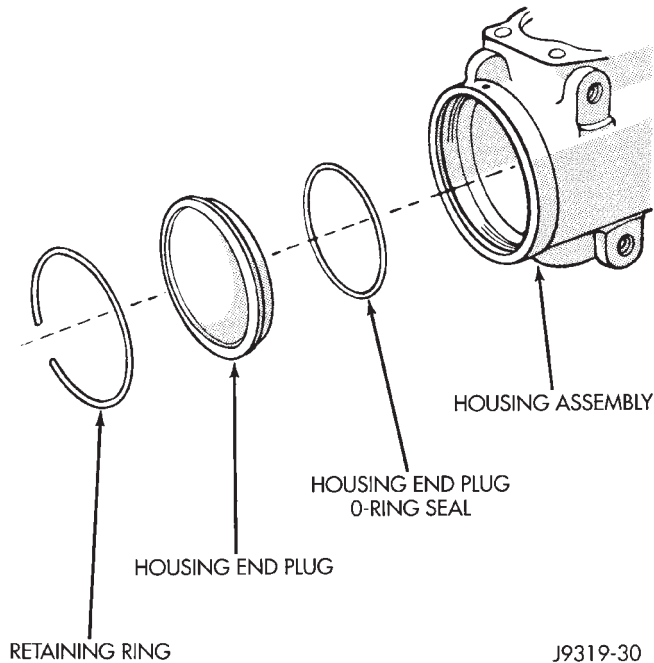

Fig. 16 End Plug Components
- (2) Rotate stub shaft slowly COUNTER-CLOCKWISE to remove end plug out from housing (Fig. 16).
- (3) Remove O-ring seal (Fig. 16).